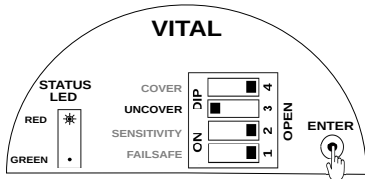

Figure 15: Setting Uncover Delay
3. Press ENTER. The STATUS LED starts blinking. Blink the STATUS LED according to value of uncover delay as shown in Figure 15.